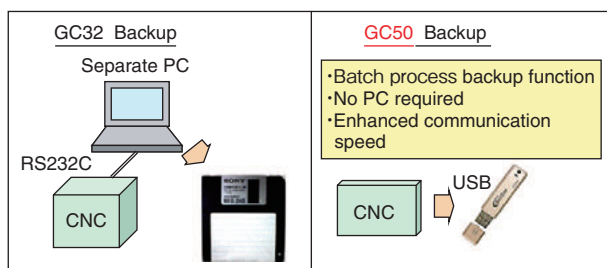

Fig. 2 Data backup
4) By integrating the PLC tool and other peripheral tools into the CNC, devices otherwise used for PLC editing, downloading, and calculating are no longer needed. Also, the integration of a USB port has enabled data back up (Fig. 2) for all devices (PLC, CNC, servo) further eliminating the need of special dedicated equipment.